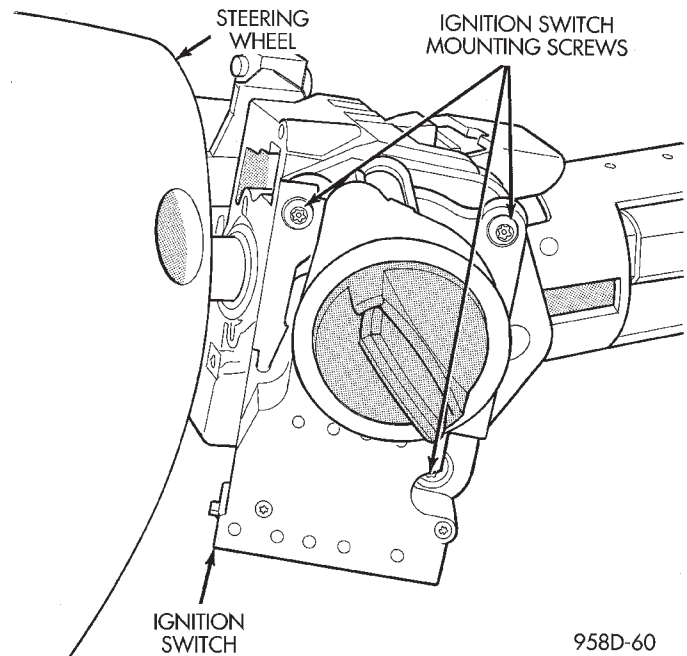
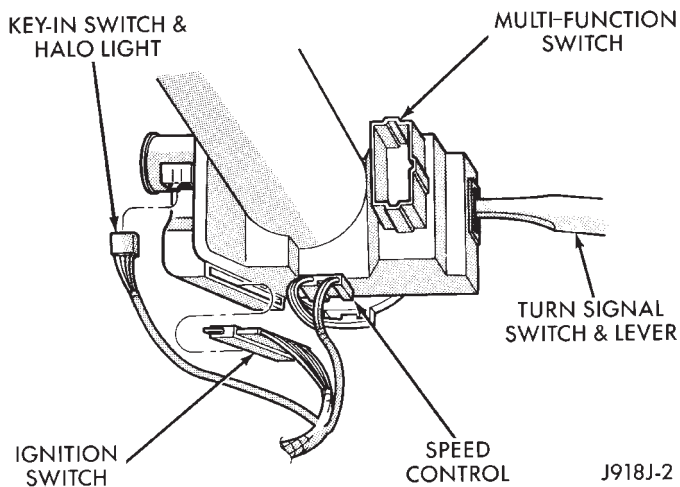
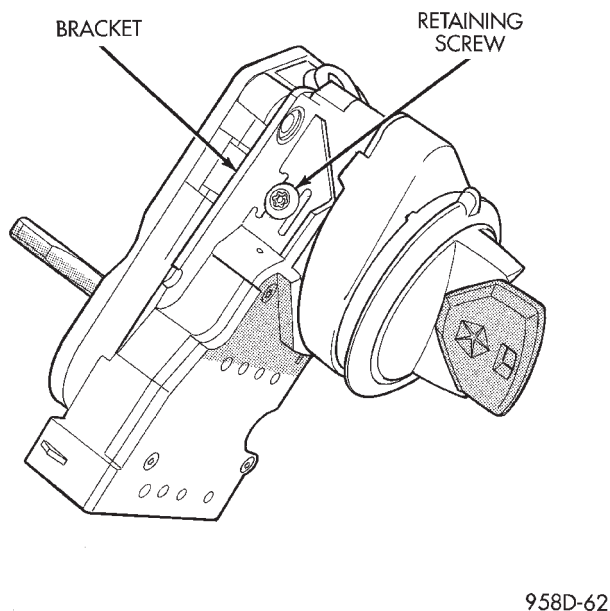

Fig. 2 Ignition Switch Screw Removal
Fig. 4 Key-In-Switch and Halo Lamp Connector
Fig. 5 Key Cylinder Retaining Screw
- (4) Remove ignition switch mounting screws. Use tamper proof torx bit Snap-on TTXR20A2 or equivalent to remove the screws (Fig. 2 or 3).
- (5) Gently pull switch away from column. Release connector locks on 7-terminal wiring connector, then remove connector from ignition switch.
- (6) Release connector lock on 4-terminal connector, then remove connector from ignition switch (Fig. 4).
- (7) To remove key cylinder from ignition switch:
- (a) Insert key in ignition switch. Turn key to LOCK position. Using a TTXR20A2 or equivalent torx bit, remove key cylinder retaining screw and bracket (Fig. 5 or 6).